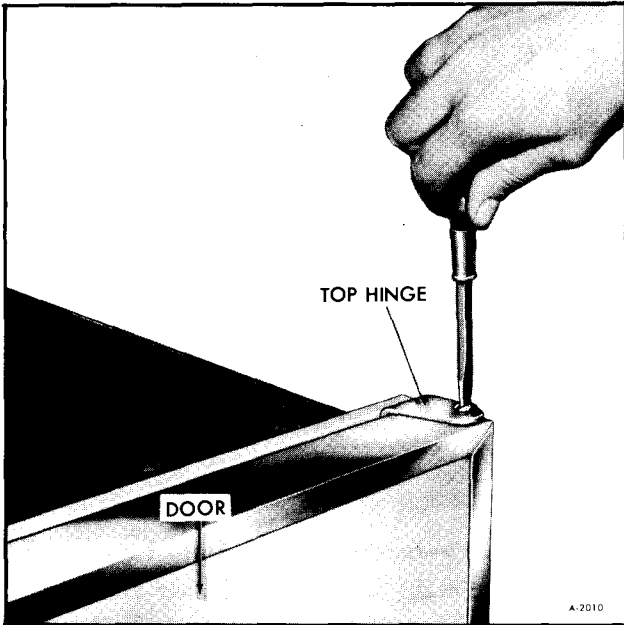

Figure 7—Removing Top Door Hinge
1. Remove screw top of freezer door hinge, release travel lock (figure 7).